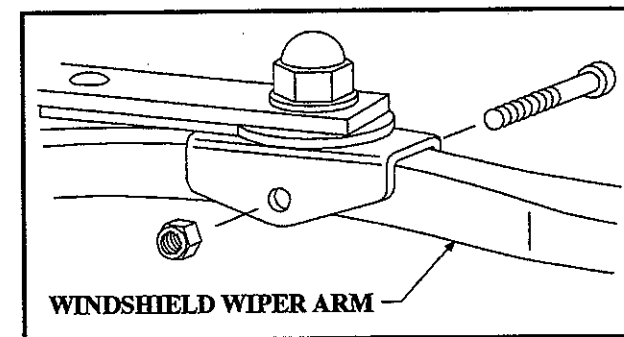

Figure 3—Windshield Wiper Blade Assembly Bracket
1. Remove the bolt from the bracket assembly on the wiper arm. (See Figure 3—Windshield Wiper Blade Assembly Bracket.)